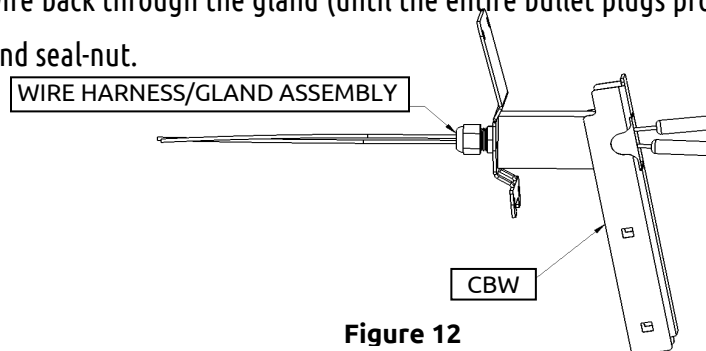

Figure 12
- b. Route harness/gland assembly into bracket, with gland on outside (back) of brackets (see Figure 12)